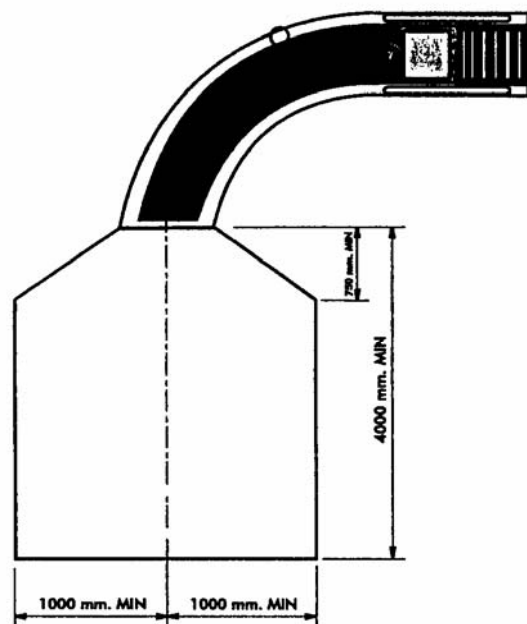

Fig. 2
- The pool slide measures (fig.2).
- Des dimensions du toboggan (fig. 2).